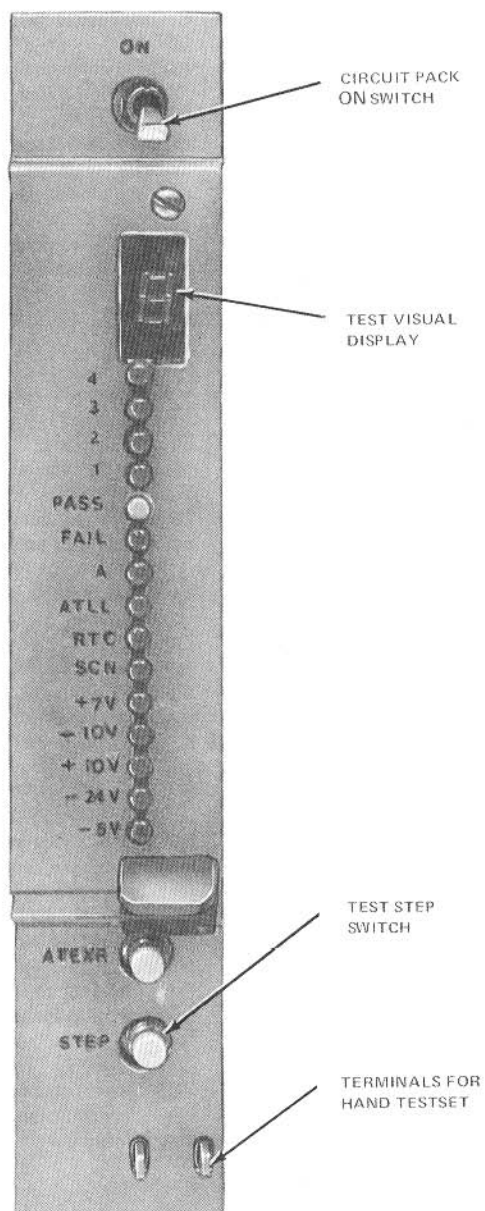
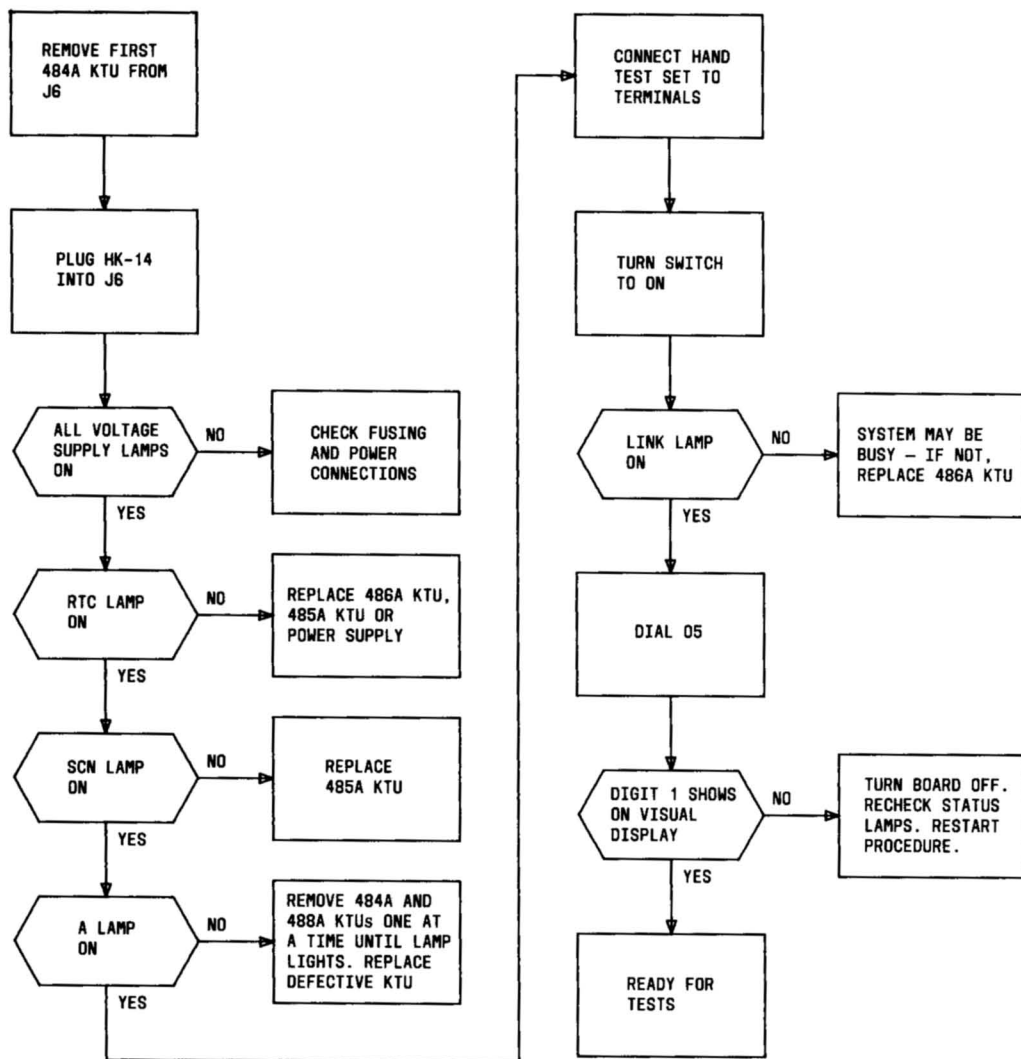

Fig. 12—HK-14 Circuit Pack Faceplate
Fig. 23—HK-14 Diagnostic Circuit Pack Preparation
- Diagnostic test sequences (Fig. 23 through 34).
6.04 These tests require the use of the optional HK-14 circuit pack (Fig. 12) and a 1013-type hand test set. Maintenance operations involving the HK-14 circuit pack should be performed by 2nd-tier maintenance personnel only. Using the test sequences, the status of the major signaling busses and the system power for all links can be tested. Visual signals are provided on the circuit pack and audible tones heard in the hand test set.
6.06 To start the sequence after the switch is turned to ON, 05 must be dialed on the hand test set. The circuit pack will then test each link for each test. For instance, after 05 is dialed, the digit 1 will be displayed and link 1 tested for dial tone, then link 2 and if provided, links 3 and 4. The craftsman must listen for dial tone as well as look at the "PASS" LED. The test will then be repeated unless the STEP switch is depressed or the circuit pack turned off. If the STEP switch is depressed, the circuit pack will make the next test of each link in sequence. The test being made is displayed visually (Fig. 12). If it is desired to make a particular test, the circuit pack must be stepped until the proper digit or letter is displayed. Refer to Table P and Fig. 23 through 34 for the circuit pack preparation sequence and the individual test sequences.